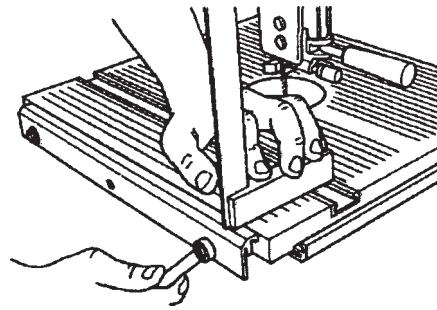
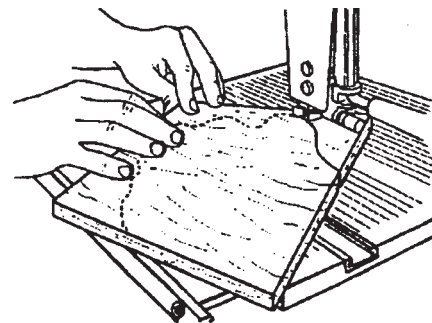

Fig. 4
Fig. 6
- Place a precision square (or straightedge) over both the table and extension, as shown in Figs. 4 and 5. Adjust the extension by slightly raising or lowering the bar until it is flush with the table top.
- When the bar is flush with the table, use a $7/16$ " wrench to tighten the bolts, as also seen in Figs. 4 and 5. Fig. 6 shows the assembled and aligned table extension being used to support the workpiece during a cut.